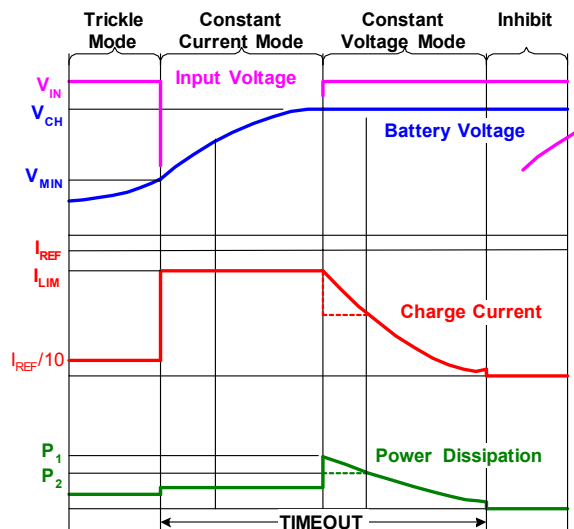

FIGURE 2. TYPICAL CHARGE CURVES USING A CURRENT-LIMITED ADAPTER.
Figure 2 shows the typical waveforms in a charge cycle of the dual mode operation. When the battery is below  $V_{MIN}$ , the charge current is 10% of  $I_{REF}$  set by the IREF pin. Since the charge current is much less than the  $I_{LIM}$ , the ac/dc converter operates in the voltage source region. Once the battery voltage exceeds  $V_{MIN}$ , the charger starts to fully turn on the internal P-channel power MOSFET. The ac/dc converter operates in the current-limited region and its voltage is pulled down to a level slightly higher than the battery voltage. As shown in Figure 2, the charge current is  $I_{LIM}$  and is lower than  $I_{REF}$ . As the battery voltage reaches the 4.2V  $V_{CH}$ , the charge current starts to decrease. The ac/dc supply moves out of the current-limit region and
The power dissipation is also shown in Figure 2. The power dissipation in both the trickle mode and the constant-current (CC) mode are very low. The possible peak power occurs at the transition from the CC mode to the constant-voltage (CV) mode. This peak power is much lower than the peak power normally seen in a linear charger and can be further reduced by properly designing the ac/dc converter. One simple approach is to design the ac/dc converter output voltage just high enough to fully charge the battery (normally lower than 5V). More information can be found in the ISL6292 datasheet available at <http://www.intersil.com>. To ensure the thermal safety, the ISL6292B has an internal thermal fold-back function that automatically reduces the charge current if the internal temperature typically rises above 100°C.